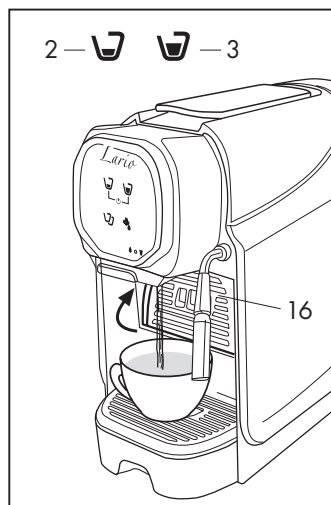

Fig. 6
Close the small cup holder (16), place a cup on the grid and press the delivery symbol (2-3); the machine delivers water (**Fig. 6**); press the symbol again when the desired amount of water has been delivered. Rinsing is complete when at least three cups of water have been delivered.